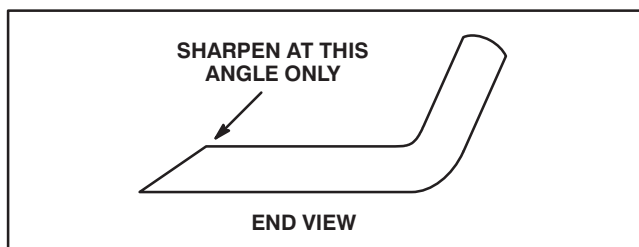

Figure 28
5. Inspect cutting edges of all blades. Sharpen the cutting edges if they are dull or nicked. Sharpen only the top of the cutting edge and maintain the original cutting angle for best performance (Fig. 28). The blade will remain balanced if same amount of metal is removed from both cutting edges.